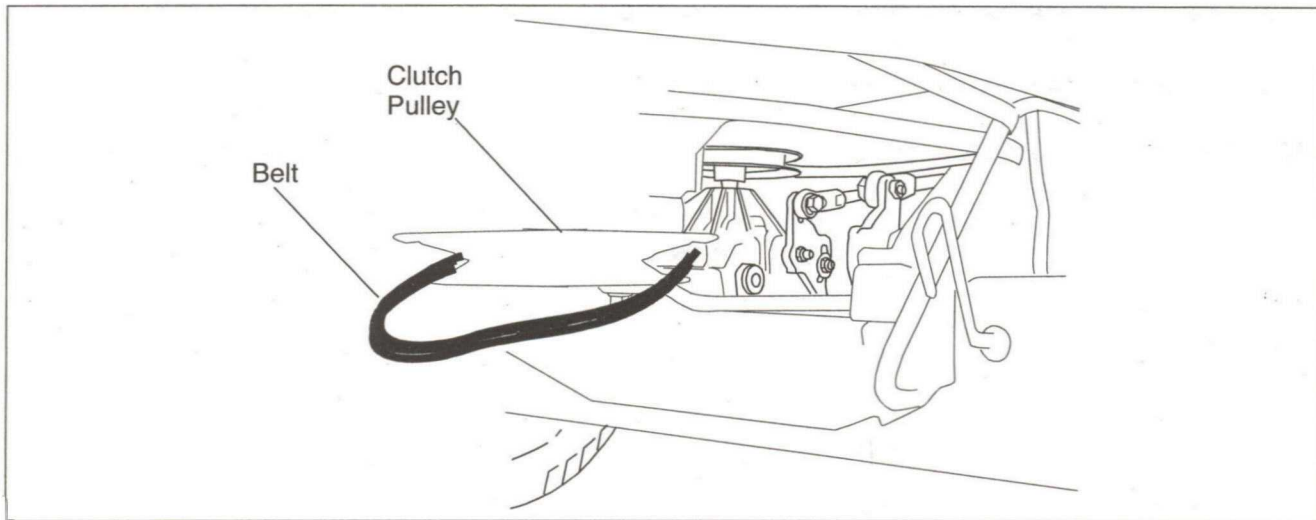

Figure 24
13. Locate the Clutch Pulley. It is located in the rear of the tractor, below the muffler. (See Figure 24)
14. Remove the belt from the Clutch pulley.(See Figure 24)